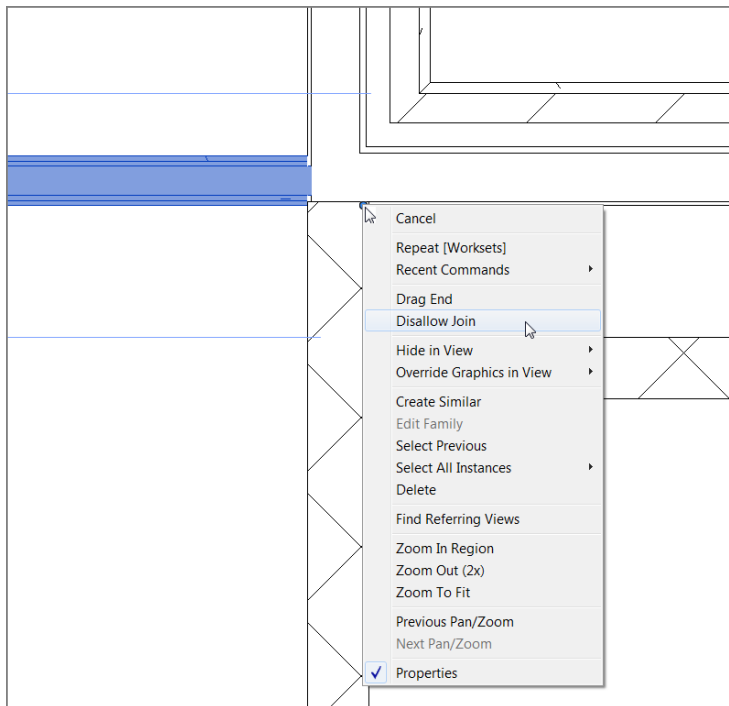

FIGURE 2.57: By right-clicking the wall's end grip, you can tell Revit to disallow that wall's join function.
2. Select the long, horizontal 6 1/8" (156mm) wall that comes into the corner, as shown in Figure 2.57. A blue grip appears to the right of the intersection. This represents where the wall's extents are located.
5. Select Disallow Join (see Figure 2.57).